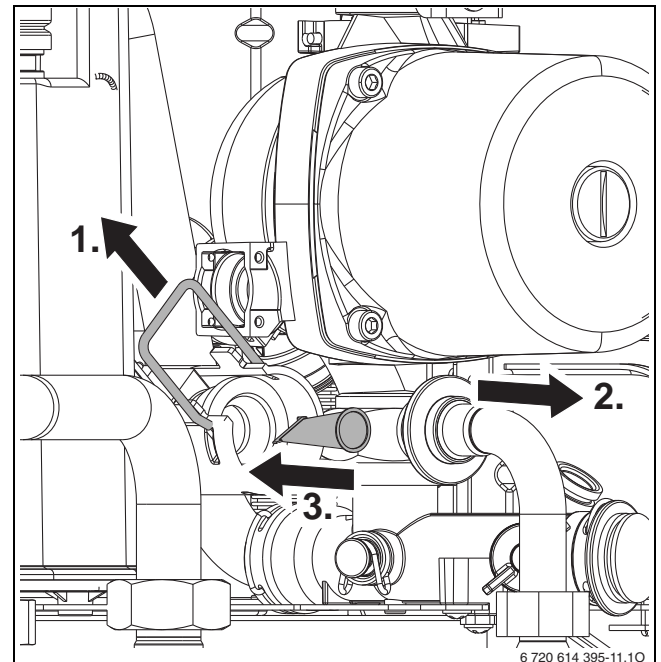

Fig. 74 Cold water filter
- ▶ Check filter in cold water pipe for debris (→ Fig. 74).